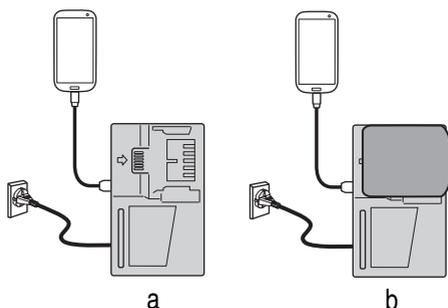

Fig. 36
- Charging a USB device from a electrical outlet (**Fig. 36-a**).
- Charging a USB device and battery from a electrical outlet.(**Fig. 36-b**)